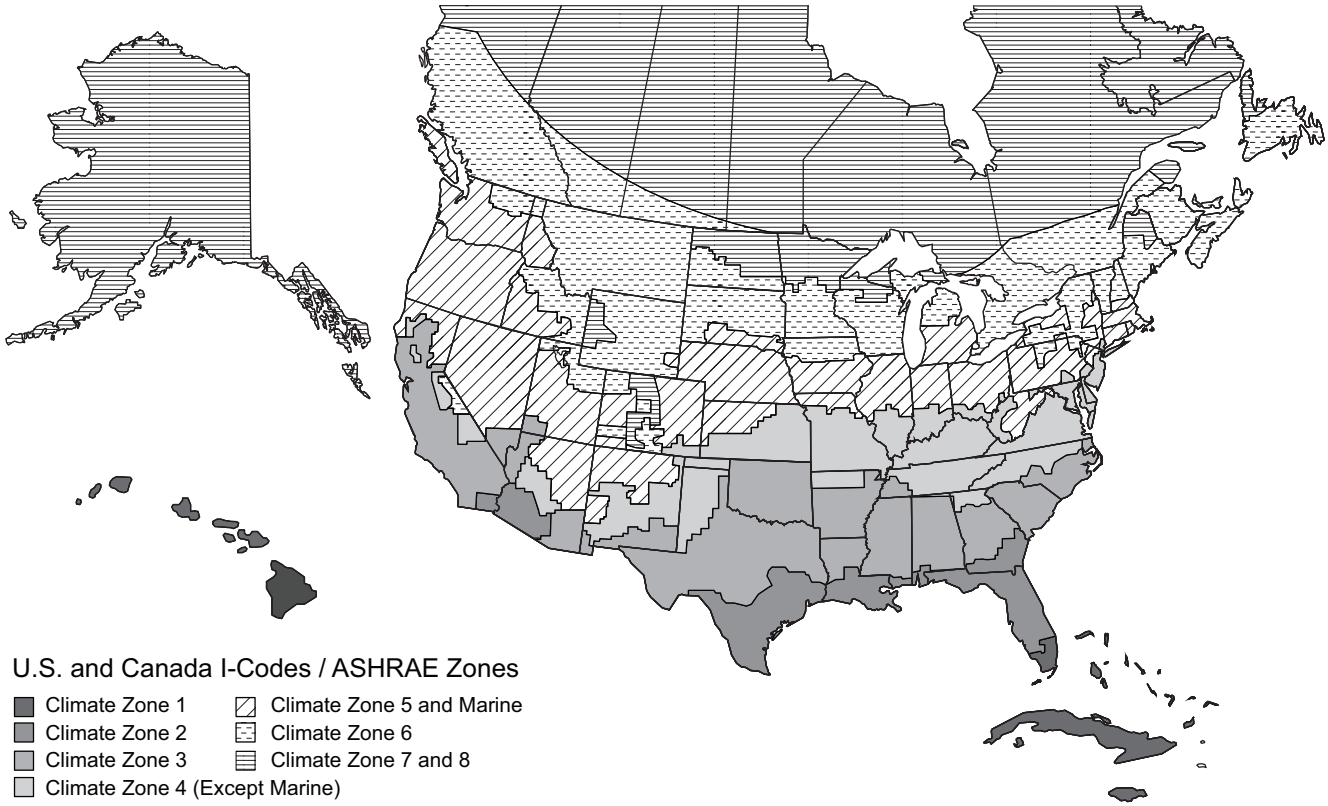

Fig. 94 – U.S. and Canada Climate Zones
- a. See Fig. 94 for map of U.S. and Canada climate zones.